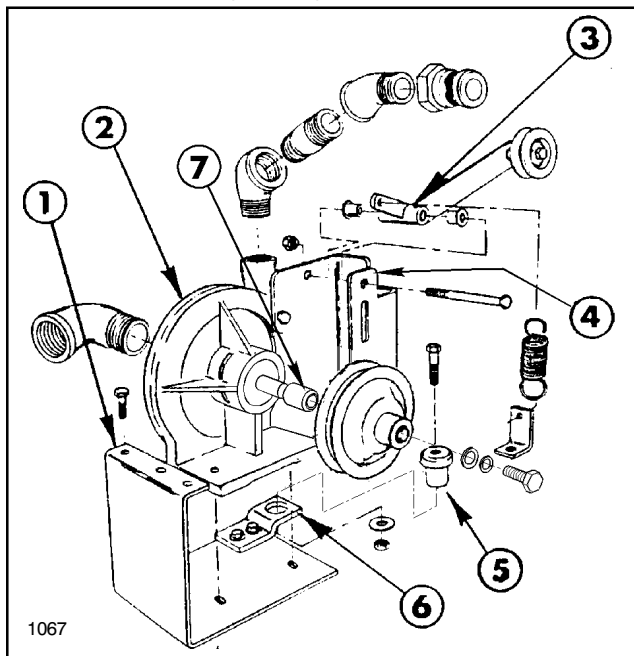
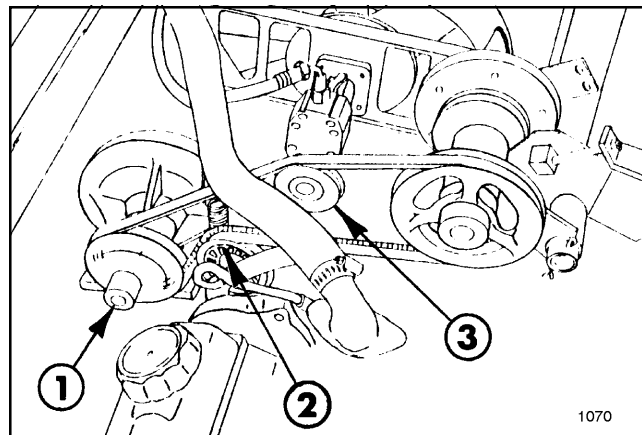

FIG. 1
**FIG. 3**
1. Slide the Pulley Spacer on the Pump Shaft. Install the square key into the centrifugal pump shaft key slot. Place the pump pulley on the pump shaft and secure to the shaft using 5/16" x 3/4" hex hd. cap screw, 5/16 I.D. 10 GA. flat washer, and lockwasher (FIG. 1).
2. Attach the idler pivot bracket to the pump by removing the two pump housing bolts and replacing with (2) 3/8" x 1" hex hd. cap screws. (See FIG. 1)
4. Mount the small inside idler pulley on the long arm of the idler pivot using the 3/8" x 2 3/4" hex hd cap screw, 7/8" spacer, and locknut. **Shim as required between Idler Pivot Ass'y and Inside Idler Pulley with the (3) 3/8" flat washer to align with Pump Pulley.** Attach the tension spring to the short arm of the idler pivot assembly (FIG. 1).
5. Apply sealer and install the 90 degree x 1 1/4" street elbow into the suction port of the pump. Apply sealer and install the 1" x 3" nipple, (2) 45 degree x 1" elbows, and quick adapter into the discharge port of the pump (FIG. 1).
6. Install the rubber mount into the tab mount and loose fit the tab mount to the pump mounting bracket using the (2) 3/8" x 1" hex hd cap screws, flat washers, and locknuts (FIG. 1).
7. Attach the pump mount bracket assembly to the left side of the vehicle frame using the (3) 5/16" x 1" hex hd cap screws, lockwashers, and hex nuts (FIG. 3). Next, attach the tab mount to the crossmember using the 3/8" x 1 1/2" hex hd cap screw, 3/8" I.D. 10 GA. flat washer, and locknut. See FIG. 1. Tighten all fasteners securely.
9. Mount the pump and the spring tab to the pump mount bracket using the (2) 3/8" x 1 1/2" hex hd cap screws, flat washers, and locknuts. Attach the spring to the spring tab located at the base of the pump (FIG 1).
10. Apply thread sealer and install the 1 1/4" close nipple, suction strainer, 90 degree st. elbow, reducing nipple, and quick adapter into the suction side of the pump (FIG. 3).